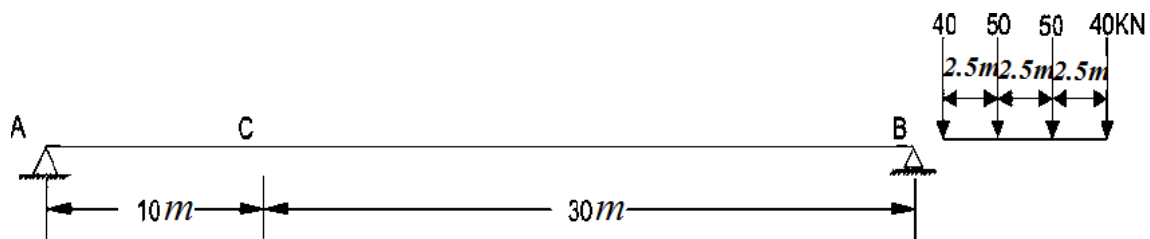

Figure 3.1
- The beam is loaded with concentrated loads, which are moving from right to left as shown in Figure 3.1. Compute the maximum moment at the section C and also calculate absolute maximum bending moment.